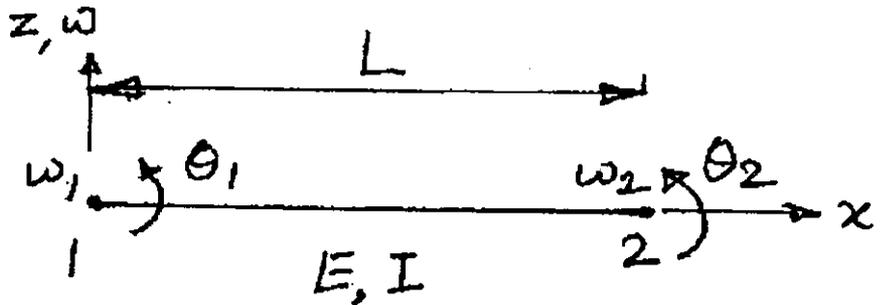

Fig. 6
- (ii) Degrees of freedom θ_1 and θ_2 of the standard four-d.o.f. element shown in Fig.6 are to be eliminated. Determine condensed stiffness matrix $[k]$.